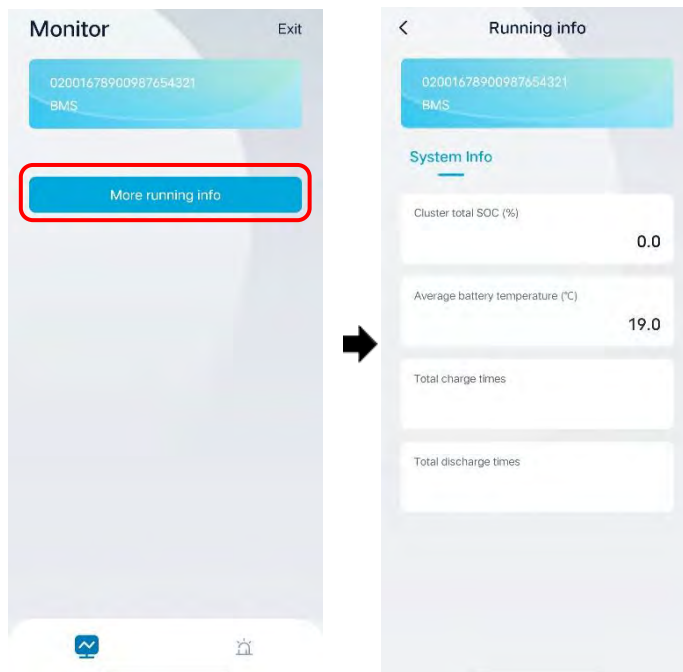

Figure5-13 More running info page
- Tap "More running info " button, the related info of battery system can be viewed, such as cluster voltage, min. cell voltage, cluster status, total cluster SOC, etc., as shown in Figure5-13.